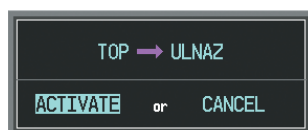

Figure 5-121 Confirm Active Leg
- Press the **ACT LEG** Softkey. The confirmation window is now displayed as in Figure 5-121. Note the TOP to ULNAZ leg is actually part of V4.